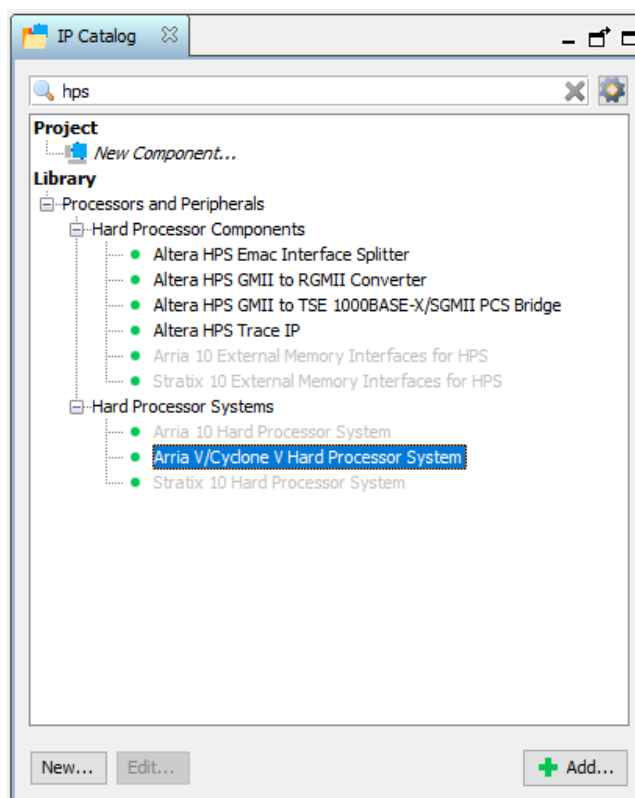

Figure 36 : HPS on IP Catalog
2. On IP Catalog tab, search the word “hps”, then Arria V/Cyclone V Hard Processor System will appear as shown in the Figure 36. Double click it.